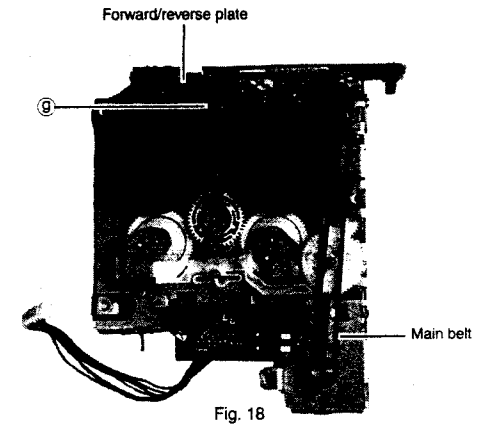

Fig. 18
◆ **Removing the head plate (Figs. 18 and 19)**
6. From the rear of the head plate, detach the Mylar washer ⑨ and the washer pressing the forward/reverse plate down. (Fig. 18)
◆ **Removing the flywheel assembly (Fig. 18 and 19)**
6. Disengage the main belt from the flywheel assembly. (Fig. 18)